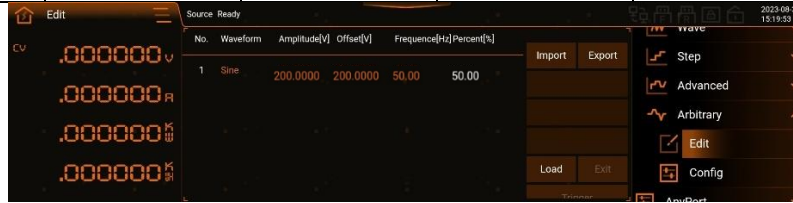

Figure 190 Arbitrary Wave Programming Example One
- 2) See Arbitrary Wave Programming Data Table 20, see Arbitrary Wave Programming Example Figure 190.